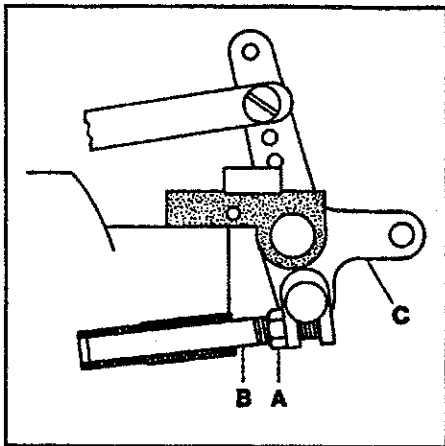
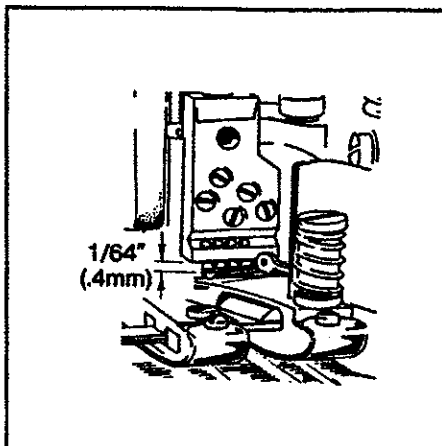

FIG. 23
FIG. 24
The presser foot lifter stop plunger must be set so the hook will not hit the bottom of the needle head as the presser foot is being lifted. Position the needle bar to its lowest point of travel. Loosen nut (A, Fig. 23) and turn plunger (B) clockwise until it strikes the crankshaft counterweight. While applying pressure to lifter (C) to lift the foot, back out of the plunger until the distance between the hook and the underside of the needle head is $1/64$ " (0.4mm) (see Fig. 24). Tighten nut (A, Fig. 23).